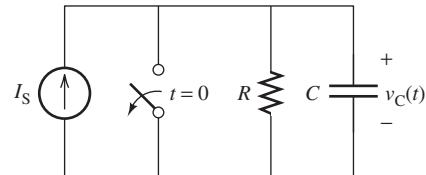

FIGURE P5.12 Circuit for Problem 5.12.
- 5.12** (A) Using your answers from Problems 5.10 and 5.11, find $v_C(t)$ and $p(t)$ in Figure P5.12 for $t = 10$ ms and $t = 20$ ms. $I_S = 3$ mA, $R = 5$ kΩ, $C = 2$ μF.